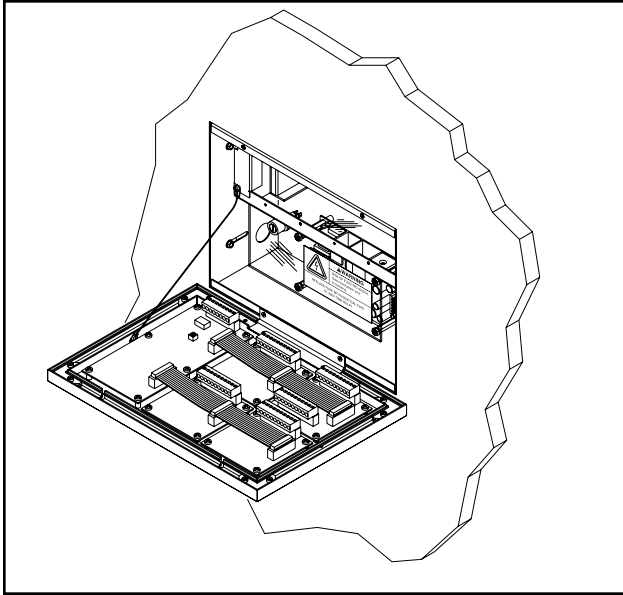

Figure 14: Attach Front Panel and Lanyard
3. Attach front panel hinge and lanyard to alarm panel back box using screws removed in step 2 as shown in Figure 14. Large (8-module) back boxes use two lanyards, one on each side.